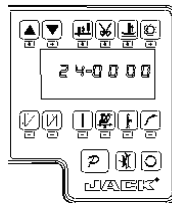

Fig.4-2
Step 1: Press **P** and keys, enter monitor mode to the NO. 24th monitoring parameters. As shown in Figure 4-2
Step 2: Turn the handwheel so that the wiper to the position of the up needle position, LCD will show a mechanical angle of deviation. As shown in Figure 4-2 Legend.
Step 3: Press the **P** and keys, LCD display 240000 (previous step mechanical deflection angle zero) to prove that the needle position set. As shown in Figure 4-2 Legend: